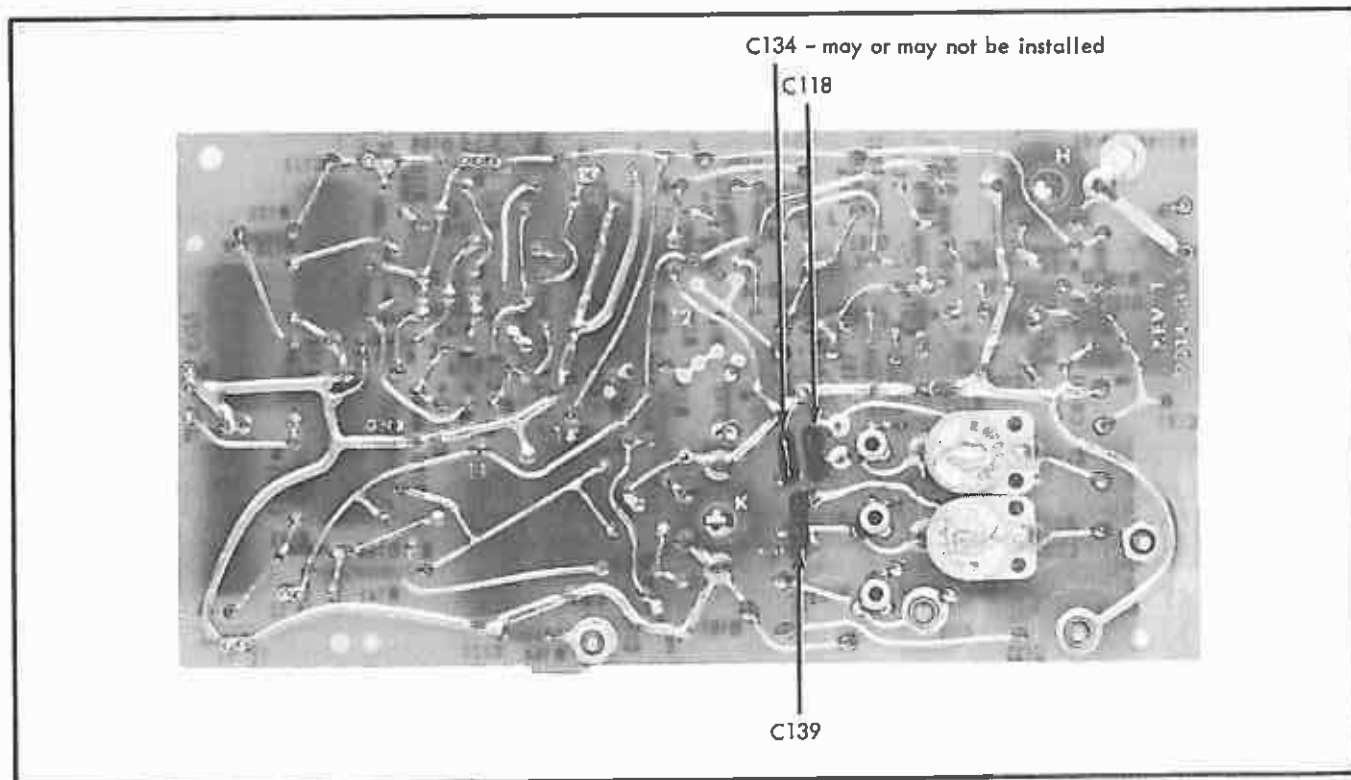

Figure 4-23. LOCATION OF COMPENSATING COMPONENTS
- a. Remove C118, C134, and C139 from the A3 assembly. Refer to Figure 4-23 for locations.
- i. Select a value, nominally 30 pf, for the padder capacitor C139 that will provide C121 with an adjustment range necessary to obtain the desired results of step h. Securely solder the selected capacitor C139 in its correct position illustrated in Figure 4-23.
- n. Place the MODE switch to NULL 10% and select a value, nominally 300 pf, for the padder capacitor C134 that will cause less than a $\pm .1$ meter deflection. Solder the selected capacitor C134 in its correct position illustrated in Figure 4-23.
- o. Place the MODE switch to NULL .1% and select a value, nominally 30 pf, for C118 that will cause a center-zero meter deflection \pm five small divisions. Solder the selected capacitor in its correct position illustrated in Figure 4-23.